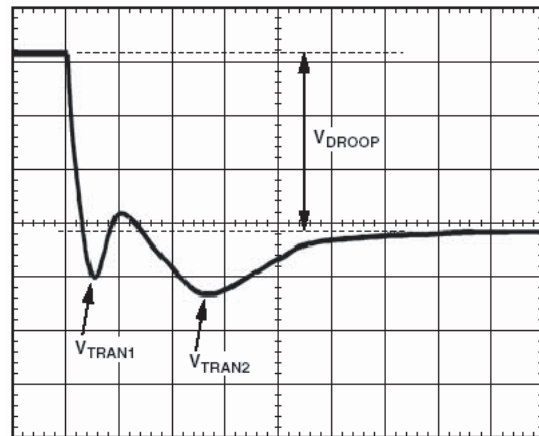
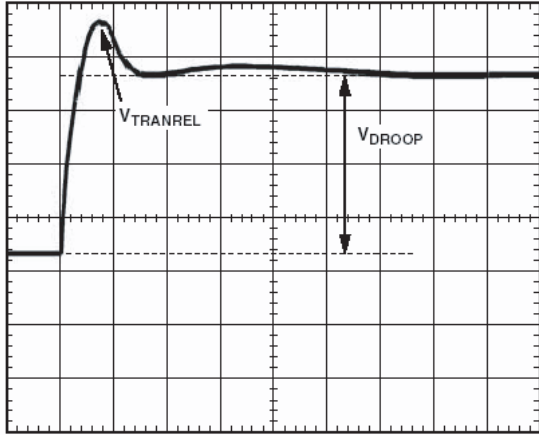

Figure 9. Transient Setting Waveform
Figure 10. Transient Setting Waveform
19. With dynamic load still set at maximum step size, expand scope time scale to see 2µs/div to 5µs/div. You will see a waveform that may have two overshoots and one minor undershoot (see Figure 9). Here, VDROOP is the final desired value.
21. For load release (see Figure 10), if VTRANREL is larger than VTRAN1 (see Figure 9), you do not have enough output capacitance. You will either need more capacitance or to make the inductor values smaller (if you change inductors, you need to start the design over using the spreadsheet and this tuning procedure).